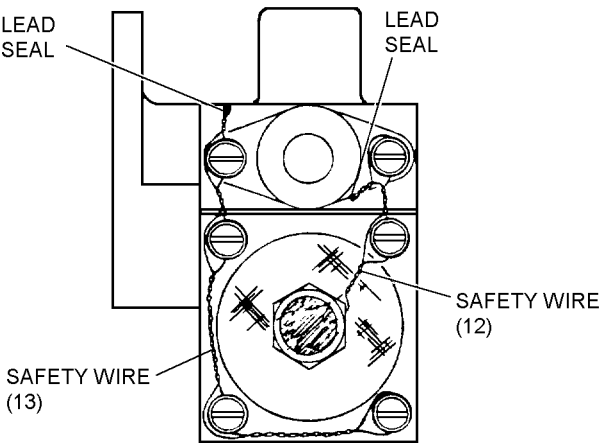

Figure 9-11. Safety Wire Installation Diagram
6. Turn HIGH PRESS. REGULATOR (Q) to vent.
7. Open SYSTEM BLEED valve (S) and bleed pressure from test stand. Secure all test stand valves and disconnect pressure reducer assembly from test stand.
8. Ensuring retainer (17) does not turn, reassemble pipe boss (16) and O-ring (16A) to housing (37) with screws (14) and washers (15).
9. Install new lockwires (12 and 13) as in accordance with figure 9-11.